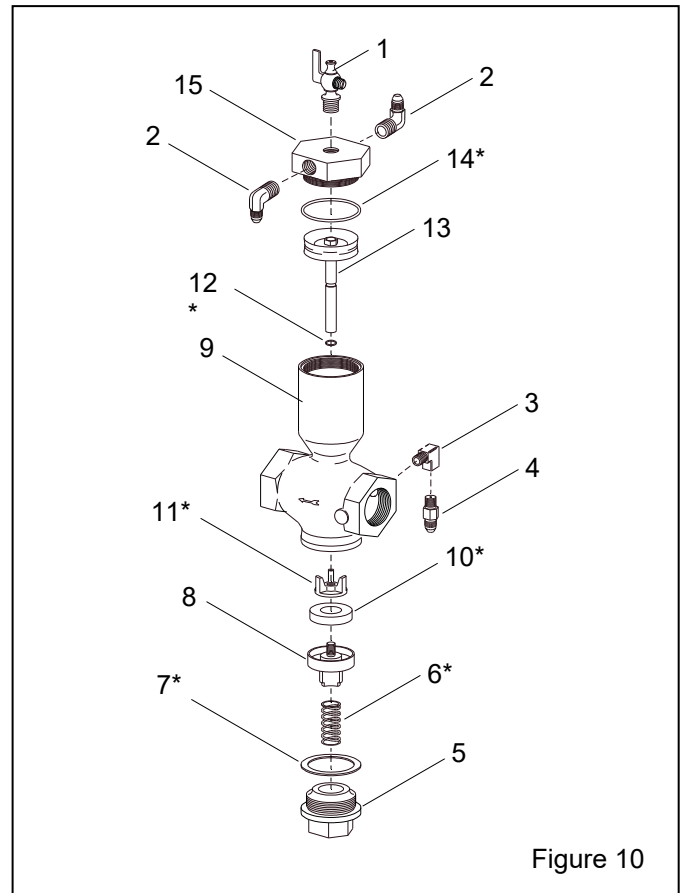

Figure 10
6.6.4 Check for air escaping from the opening under the control handle lever. If no air is escaping, the orifice on the inlet valve Figure 10 item 4 is blocked, or the line from the orifice to the control handle is blocked and must be cleared.
6.7.5 Check that the lower fitting on the inlet valve (Figure 10, item 4) has not been switched for a fitting with a full flow orifice. The orifice on the 1/8" NPT end of the fitting must be 1/16" diameter.
7.3 1" Inlet Valve, Figure 10